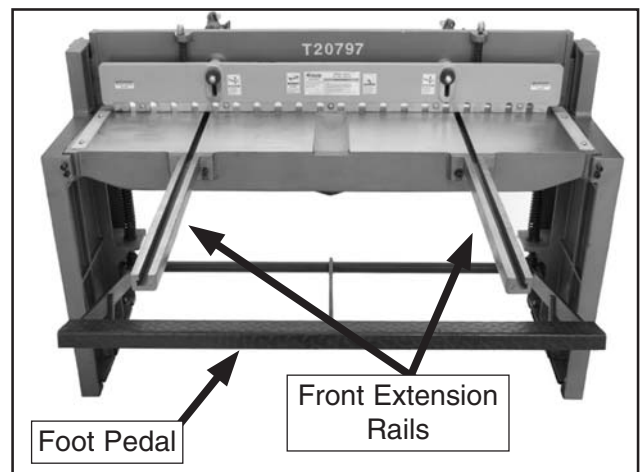

Figure 4. Foot pedal and front extension arms.
7. Slide the front work stop into the extension rails. When the foot pedal, front extension rails, and work stops are installed, the machine should look like **Figure 4**.